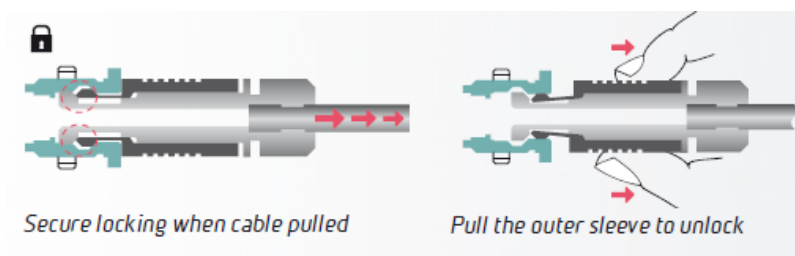

Fig. 81 Disconnection of the connector of the SCD detector
- Disconnect the connector of the supply cable from the detector (see Fig. 81).
- Disconnect the connector of the spiral supply cable of the detector (see Fig. 81).